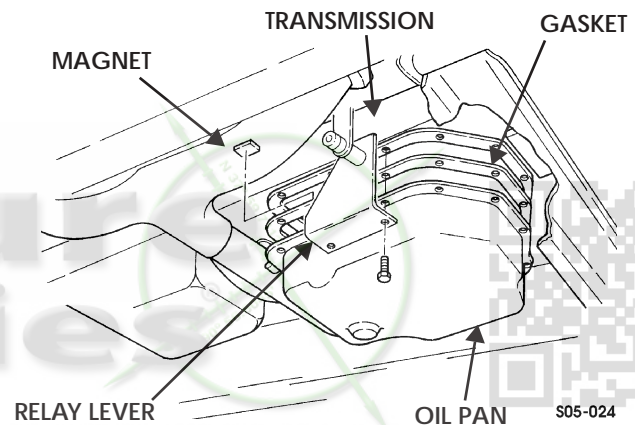

Figure 5-74: Oil Pan
4. Loosen seventeen capscrews on transmission oil pan, and allow fluid to drain (Figure 5-74).
3. Remove magnet, and clean oil pan and magnet (Figure 5-74) (Section 1).
2. Position magnet in oil pan (Figure 5-74).